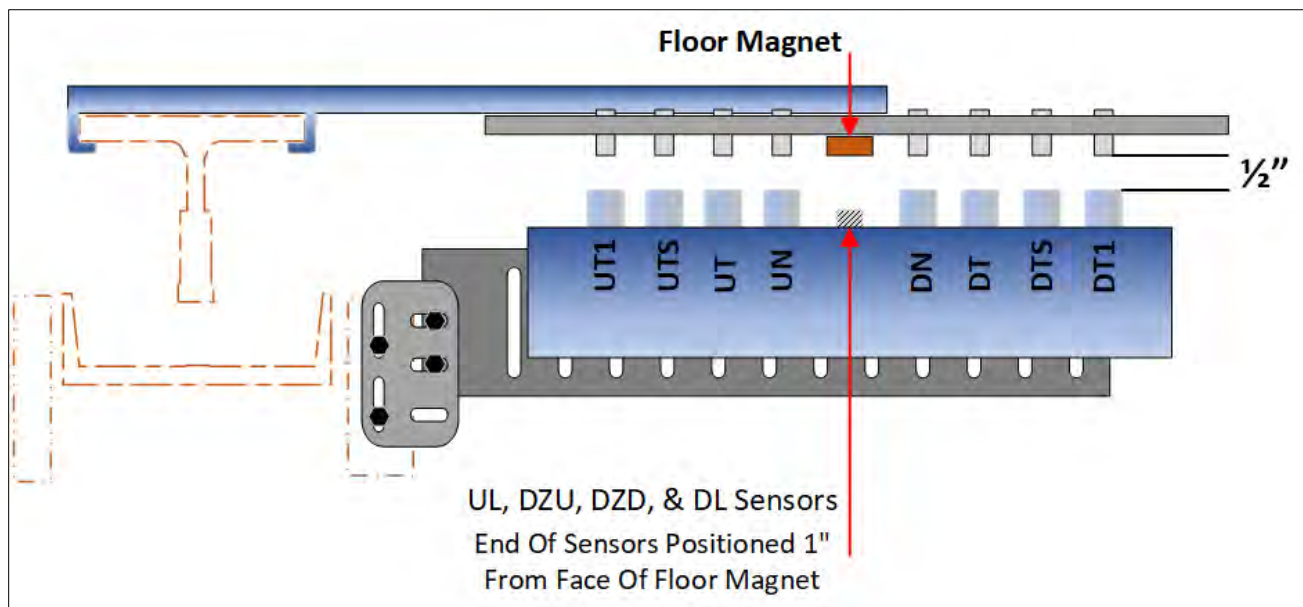

Figure 2-28: Tapeless Selector 5 Top View.
The “Tapeless Selector 5” is similar to the “Tapeless Selector 7”. However, the “Tapeless Selector 5” includes the leveling sensors within the limit switch box and requires a J-hook bracket at each floor for mounting the floor magnet. See Figures 2-28, 2-29, and 2-30.
- Mount the limit switch box mounting bracket to the cross head ensuring that the mounting is plumb and level. See Figures 2-28 and 2-30.
- Mount the limit switch box to the mounting brackets. The selector box should be positioned to allow for a distance of 1/2 inch from the face of the magnetic switch to the end of the actuating magnets that will be installed in step 3. See Figures 2-28 and 2-30.
See Figures 2-28, 2-29, and 2-30.
- Mount a J-hook bracket at each floor for the floor level magnet. See Figures 2-28 and 2-30.
- Adjust the leveling sensors so that the end of the sensors are 1 inch from the face of the floor magnet. See Figure 2-28. This distance may be adjusted in section 3.3.8.3 to provide the correct "floor level zone".
- Mount a J-hook bracket with a **GREEN** actuating magnet for each magnetic limit switch at the proper distance from the top terminal landing. See Table 2-1 for the proper distance. See Figures 2-28 and 2-30. for the proper position of the actuating magnet on the J-hook bracket.
- Mount a J-hook bracket with a **RED** actuating magnet for each magnetic limit switch at the proper distance from the bottom terminal landing. See Table 2-1 for the proper distance. See Figures 2-28 and 2-30 for the proper position of the actuating magnet on the J-hook bracket.
- The actuating magnets should be adjusted so that the end of the magnet is 1/2 inch from the face of the magnetic switch as the magnetic switch passes the actuating magnet. See Figure 2-28.